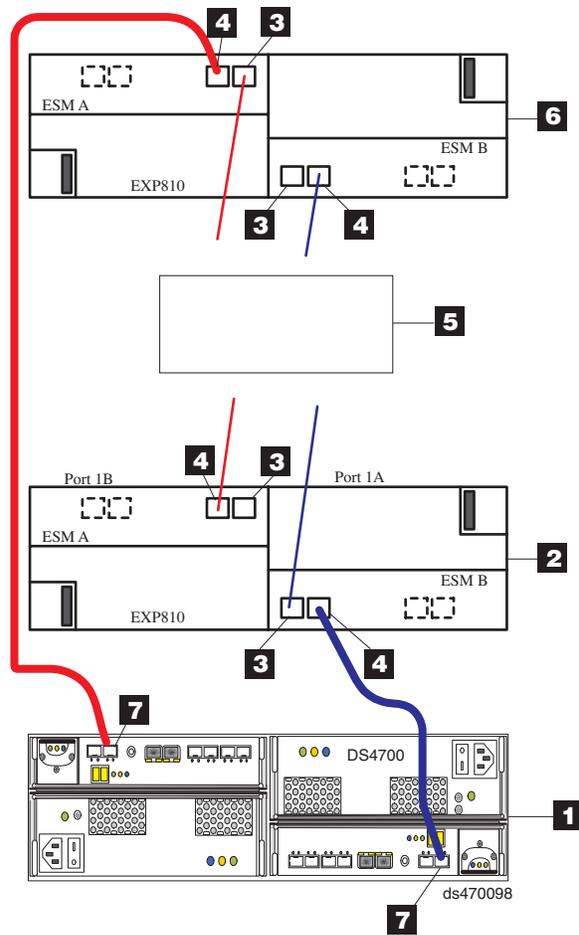

Figure 58. DS4700 Express drive ports connected to EXP810 ESM ports labeled 1B
11. The controller drive ports of the DS4000 storage subsystem controllers must always be connected to ports labeled 1B in both the right and left ESMs of the EXP810s in the redundant drive channel/loop pair that is connected to the DS4000 storage subsystem. Figure 58 on page 78 shows the location of the ports.